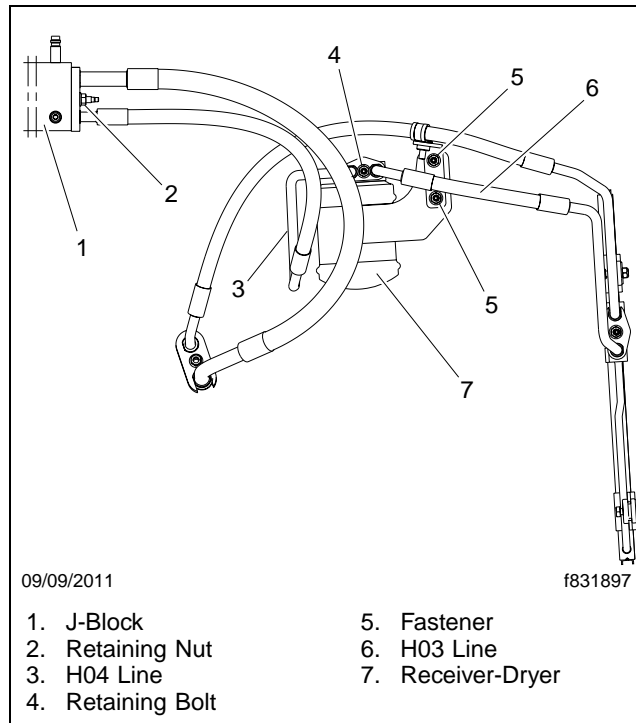

Fig. 1, A/C Line Installation
6. After the refrigerant has been fully recovered, disconnect the H04 line from the J-block and the receiver-dryer. See **Fig. 1**.
- 7.1 Remove the mounting bracket fasteners, then remove the receiver-dryer. See **Fig. 1**.
9. Position the new H04 line, and using new seals, connect the line at the J-block and the receiver-dryer. See **Fig. 1**.
10. Using new seals, connect the H03 line to the receiver-dryer. See **Fig. 1**.